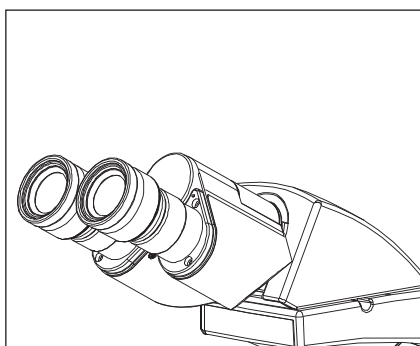

Fig.9
2. Insert 10x eyepieces into the spring loaded and to prevent undesired rotation of eye pieces. See figure 9.